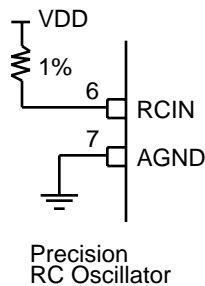

**Figure 17. Interrupt Block Diagram**
**Interrupts.** The Z86319 features four interrupts from four different sources. These interrupts are maskable and prioritized (Figure 17). The four sources are divided as follows: the falling edge of P31, P33, and the two counter/timers. The Interrupt Mask Register globally or individually enables or disables the four interrupt requests (Table 5).